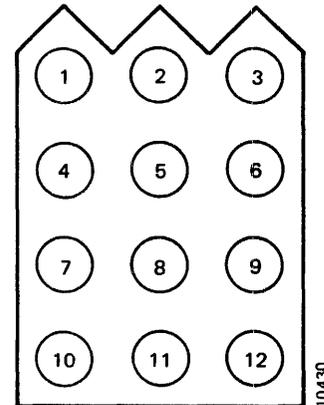

Figure 3-35. Connector J30 Pin Locations
2. Measure contact resistances of the microswitch at connector J30 by using an ohmmeter. See Figure 3-35 for connector pin locations.